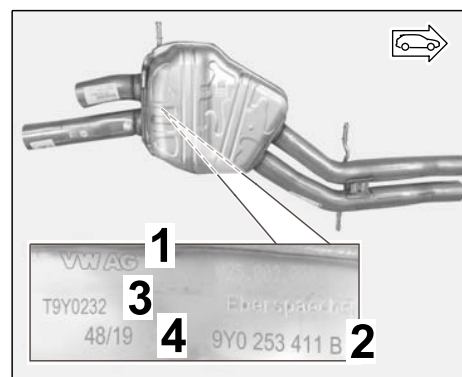

Figure 3
– Center silencer (⇒ *Figure 3*):